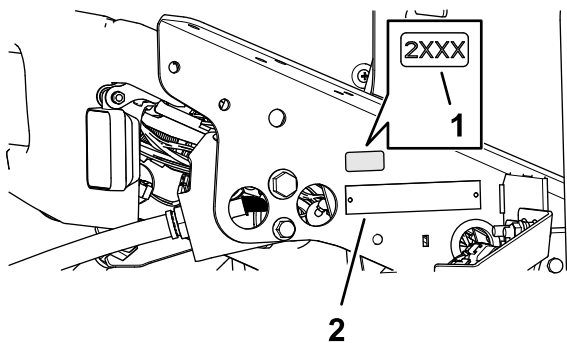

Figure 7
1. Use rubbing alcohol and a clean rag to clean the floor bracket area next to the serial plate, and allow the bracket to dry (Figure 7).